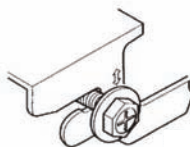

Fig.7
e. Lift the unit and slide forward unit the dent. (Refer to Fig.7)